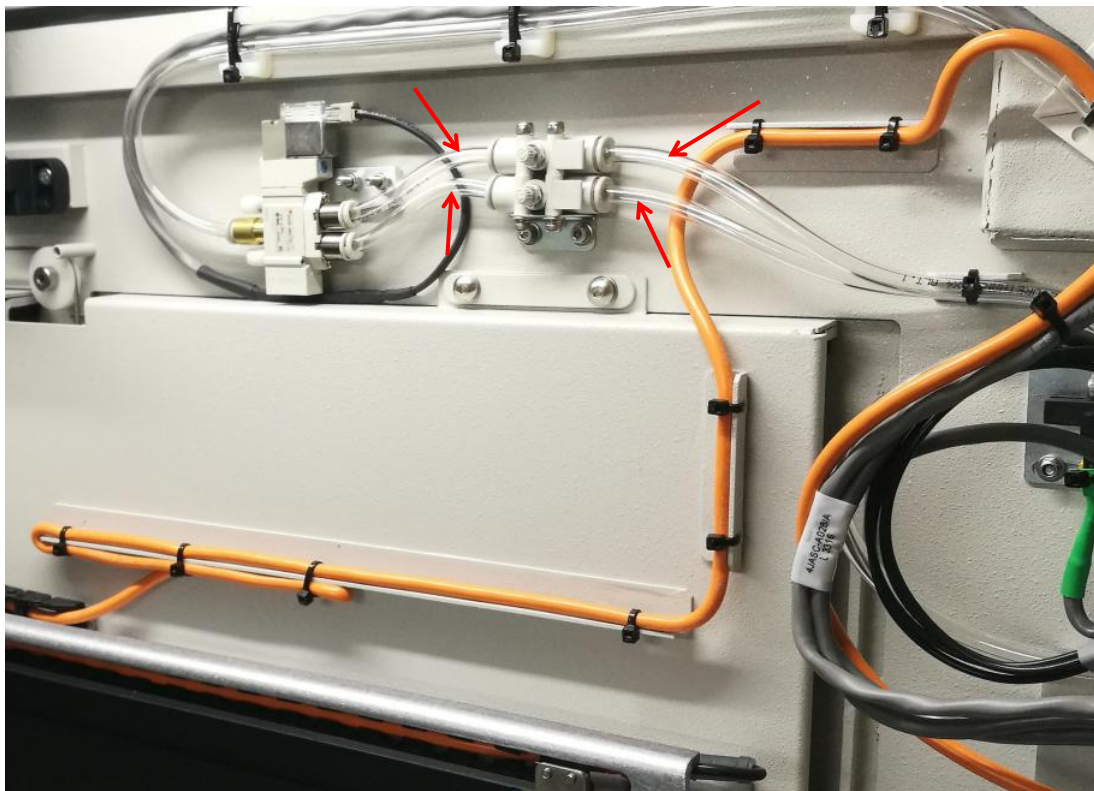

Figure 6 Tubing assembly
3. By refer to previous label marking in step 3, plug back 4 x Tubing respectively as shown in Figure 6.